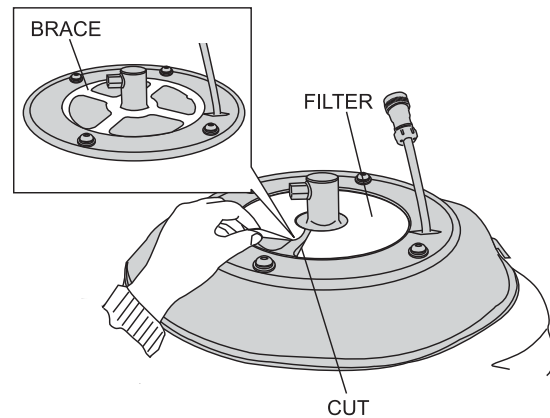

Figure 42. Filter Placement
5. Install a new filter over the brace as shown in Figure 42. Be sure to align the **cut of the filter** over the brace.